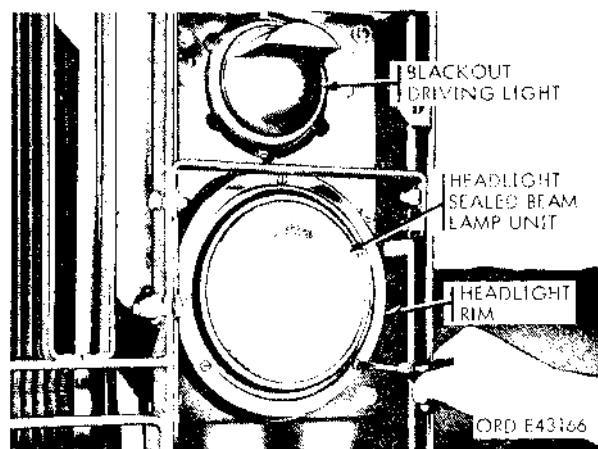

Figure 2-154. Removing headlight rim
- (1) Remove the three mounting screws from the headlight rim (fig. 2-154), and remove the rim.
(3) Position the headlight rim (fig. 2-154), and secure it with three screws.